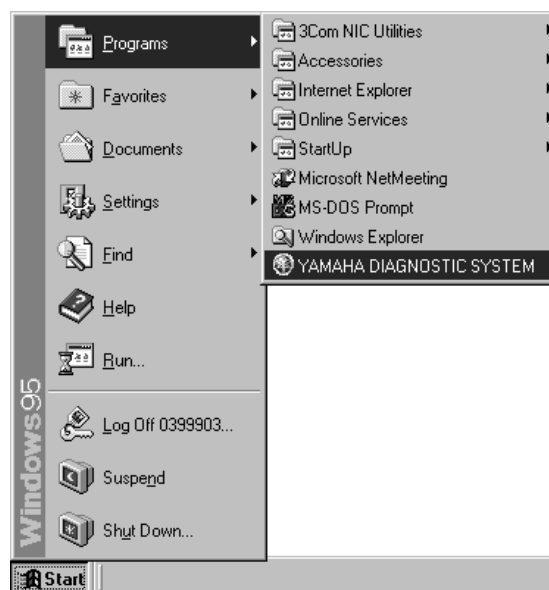

Fig. 4
3. From the taskbar at the bottom of your computer screen, click the **Start** button (Fig. 4), point to **Programs**, and then click **Yamaha Diagnostic System**.